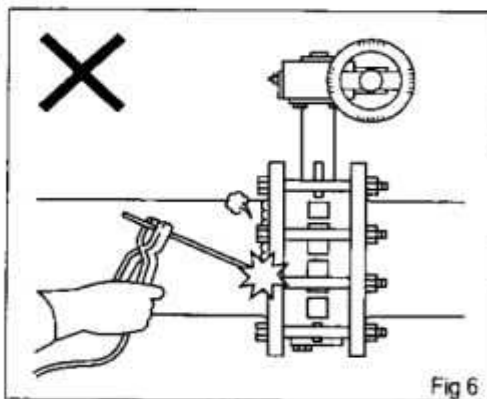

Fig 6
- **Cares when welding flanges :** Installation of the valve immediately after welding of the flange to be avoided, and installation to be made only after welded-part cooled down. Welding of flange or repairing works through welding, while keeping the valve installed to pipings, to be avoided. (Fig 6)